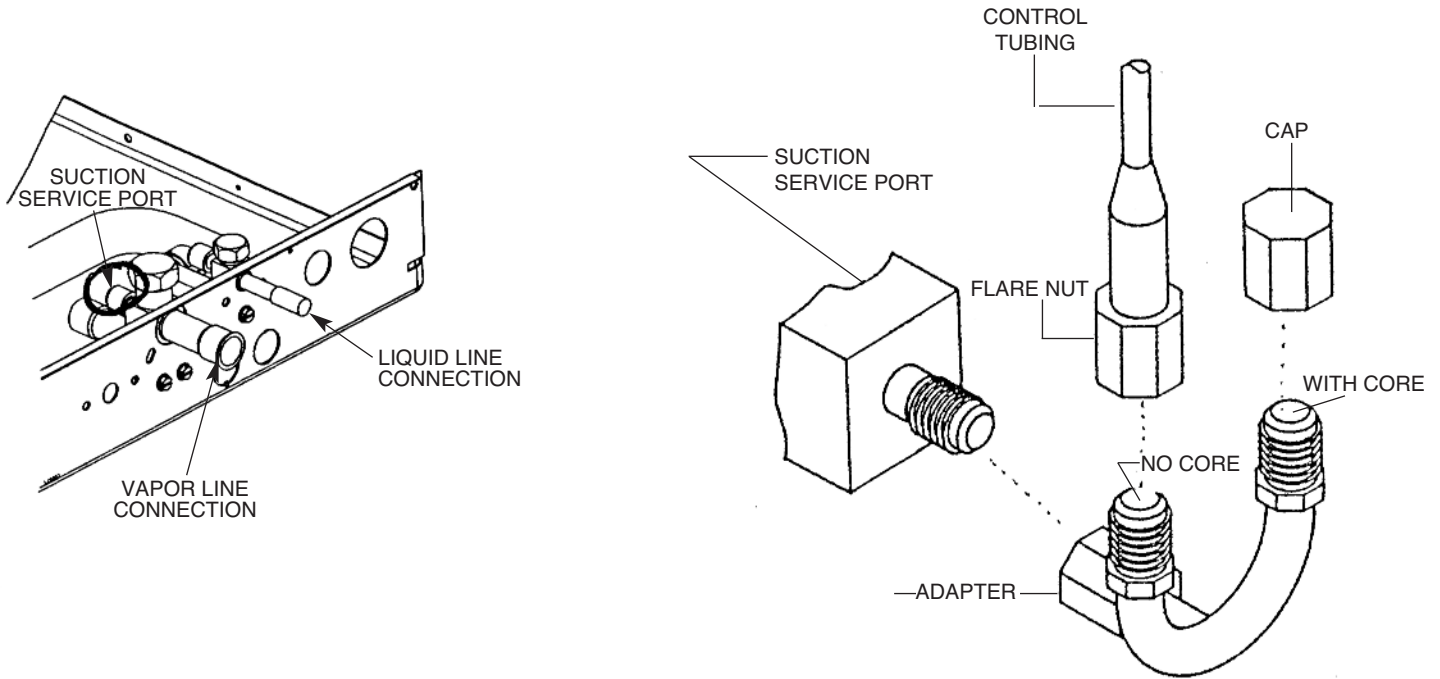

FIGURE 3. RECTANGLE FITTING CONNECTIONS
3. Connect flare nut to adapter fitting that does not have a valve core. (Figure 3)